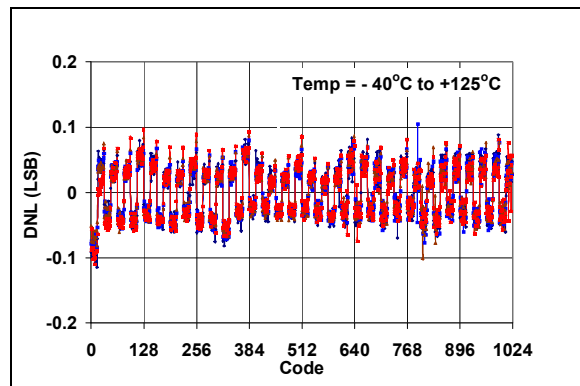

**FIGURE 2-10:** INL vs. Code (MCP4922).
**Note:** Single device graph (Figure 2-10) for illustration of 64 code effect.